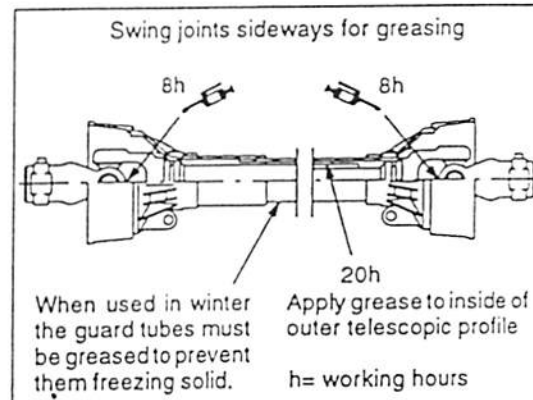

Fig.9. P.T.O shaft's lubrication points and frequency of lubrication.
- Lubricate the P.T.O shaft before putting into operation and frequently as shown in fig.9.